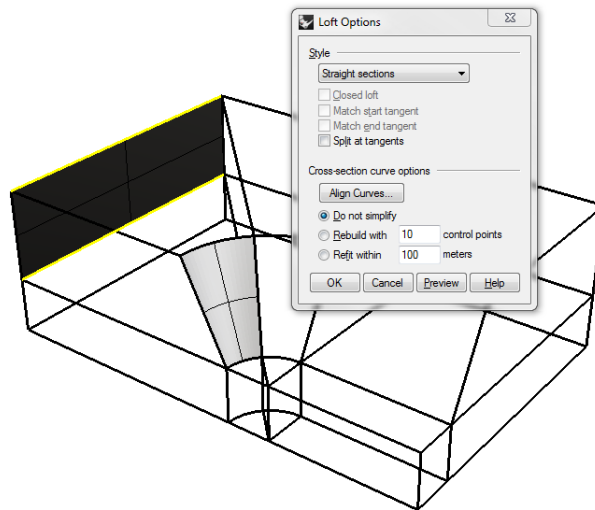

Figure 67: Building the opposite surface
8. To build the rectangular surface **opposite** the curved face you built earlier, select the two horizontal lines highlighted in Figure 67 and use **Surface|Loft**.